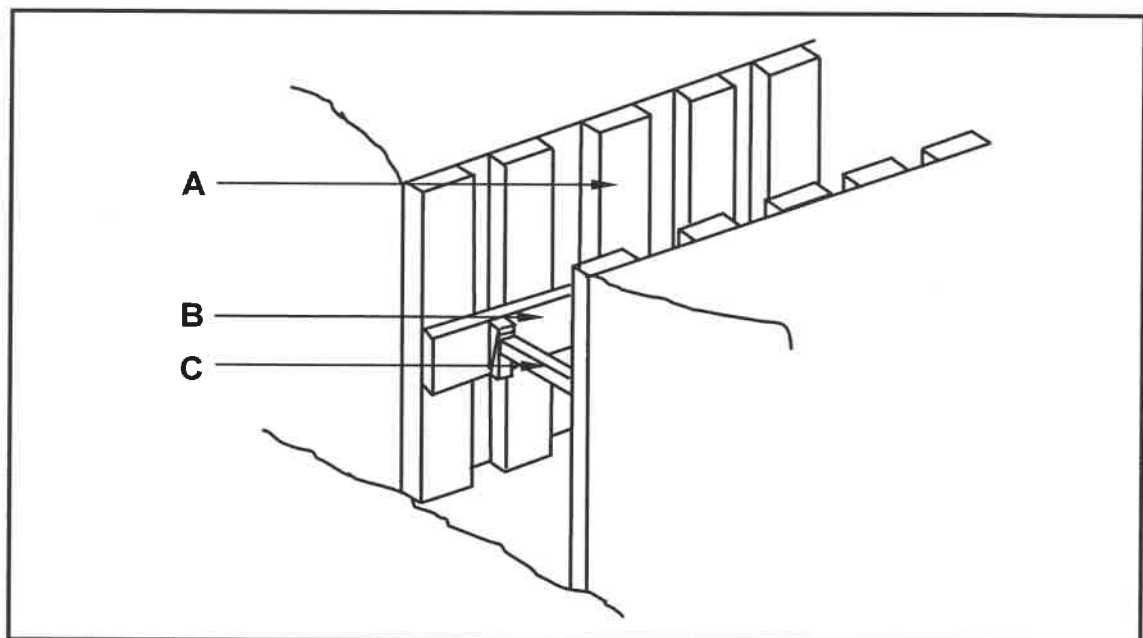

FIGURE 4.2
4.2 FIGURE 4.2 below shows the shuttering that is used in excavations.